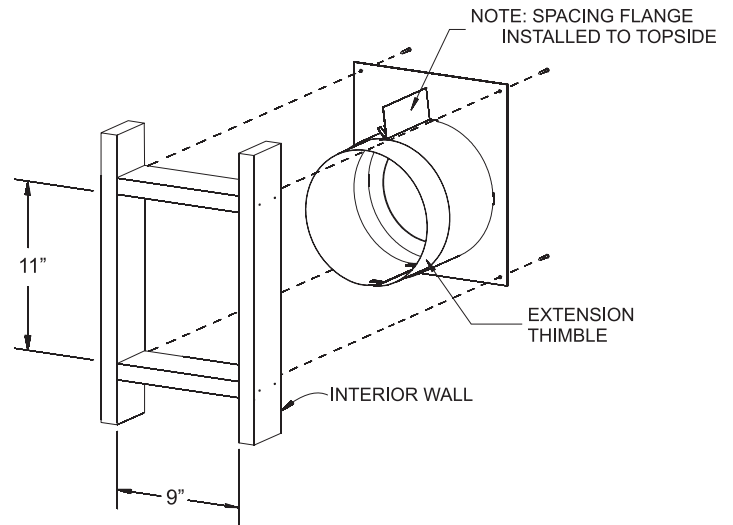

Figure 50
2. Cut hole in wall for wall thimble/firestop assembly (**Figure 50**) into your combustible wall. **NOTE:** On brick or block exterior wall a 7" (178 mm) diameter hole needs to be cut.
Measure the total wall thickness to determine whether or not the extension thimble is to be used. If the combustible wall depth is over 5-3/8" (137 mm), then the extension thimble should be used. **See Figure 50.**
3. Install the wall thimble assembly through the framed opening so the firestop plate is on the interior wall. **See Figure 50.** Telescope section should extend all the way through the exterior wall. Attach with four 10 x 1" screws.